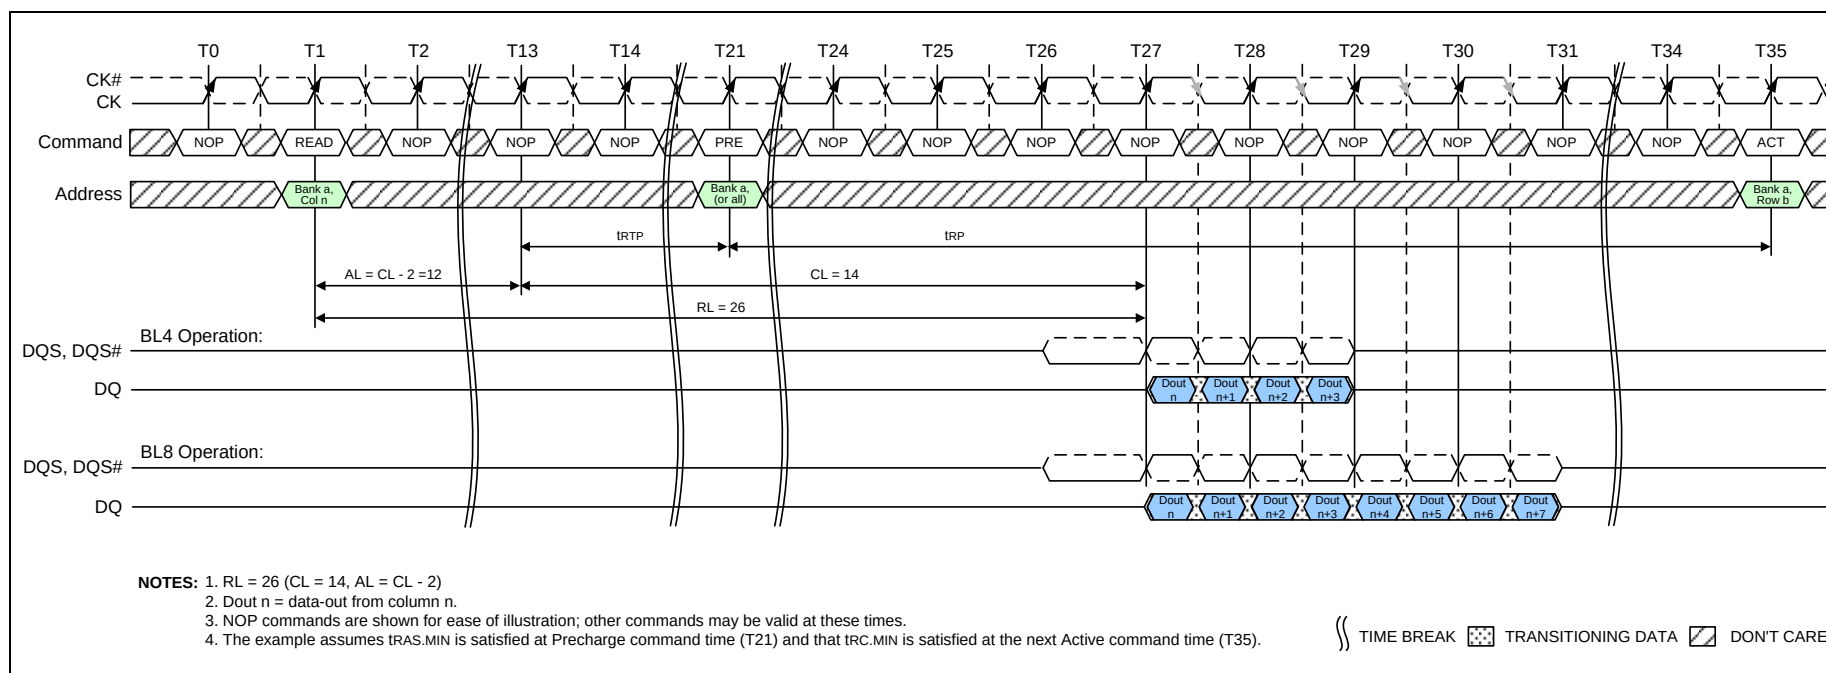

Figure 39 – READ to PRECHARGE (RL = 26, AL = CL-2, CL = 14, tRTP = 8, trP = 14)
- Examples of Read commands followed by Precharge are show in Figure 38 and Figure 39.